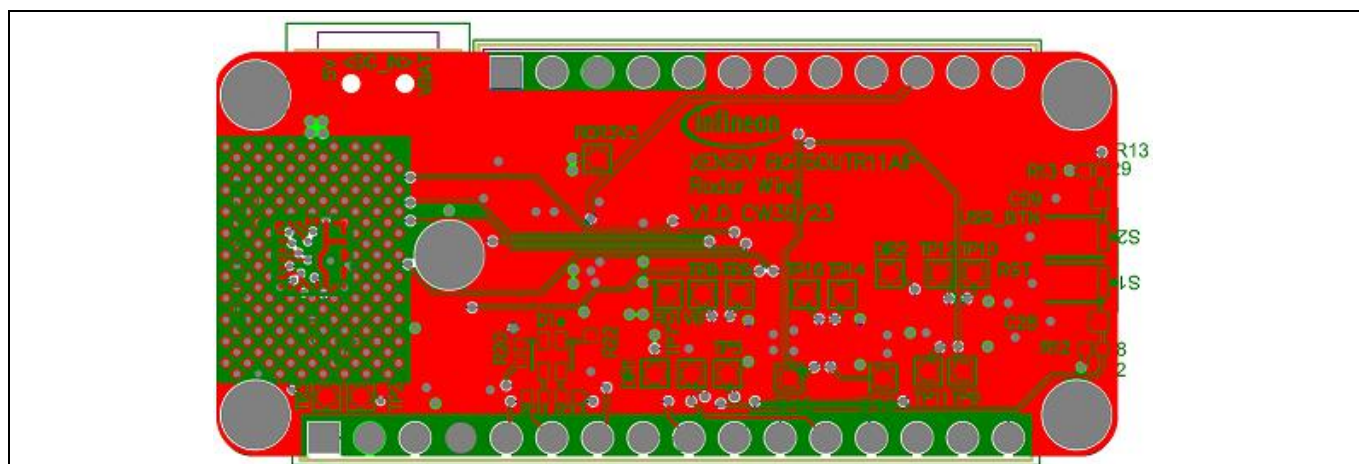

Figure 14 PCB layout of XENSIV™ BGT60UTR11AIP Radar Wing board
The size of the XENSIV™ BGT60UTR11AIP Radar Wing board is 43 mm (L) x 23 mm (W), as shown in Figure 14.